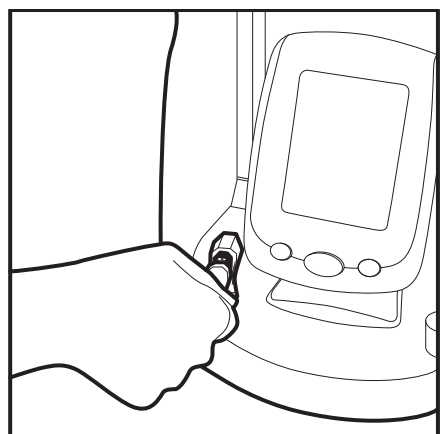

Figure 19
2. Plug the transducer cable into the jumper port in the portable case to the left of the control head, as you face the front of the bag (see Figure 19)